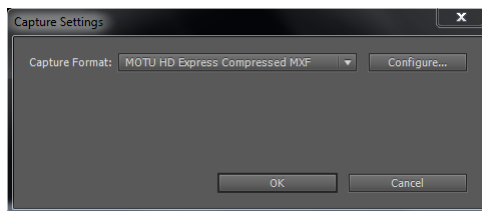
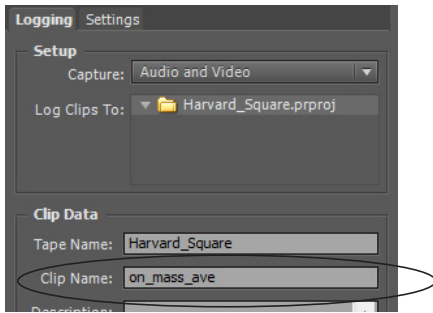
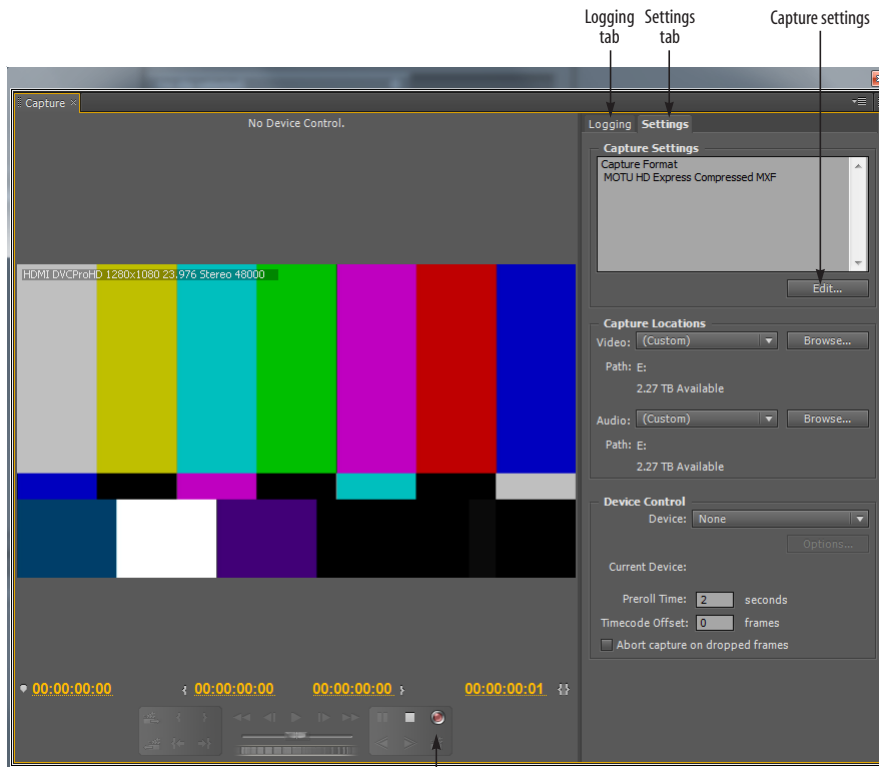

Figure 7-7: Capture settings.
Figure 7-8: Be sure to name the clip before you capture.
Figure 7-6: Capture window.
- 1 In Premiere Pro, choose *Capture* from the File menu to open the Capture window (Figure 7-6).
- 2 Click the Settings tab and click the Edit button (Figure 7-6) to access the Capture settings (Figure 7-7).
- 5 Click the *Logging* tab (Figure 7-6) and name the clip (Figure 7-8).
6 Click the Record button (Figure 7-6) to start capturing.
To access the capture settings, choose *File menu > Capture* to open the Capture window, click the Settings tab (Figure 7-6 on page 41), then click Configure (Figure 7-7 on page 40). Each setting is explained briefly below.